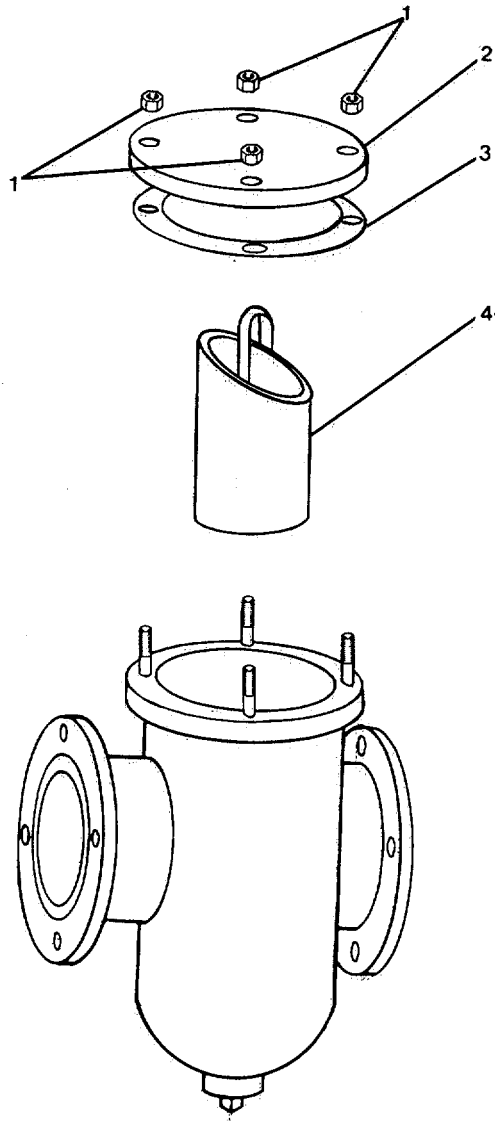

FIGURE 3-201. 5-Inch Sediment Strainer Basket, Repair.
**3-213. Repair 5-Inch Sediment Strainer Basket. (Figure 3-201)**